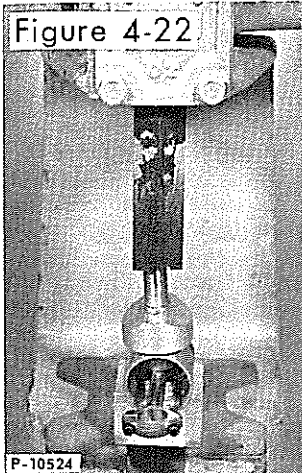

Figure 4-22
4. Place the thin end of the driver on the pin (Figure 4-21). Press the pin into place until the driver shoulders on the guide (Figure 4-22). Move the connecting rod back and forth to make sure it moves freely. Remove the guide.